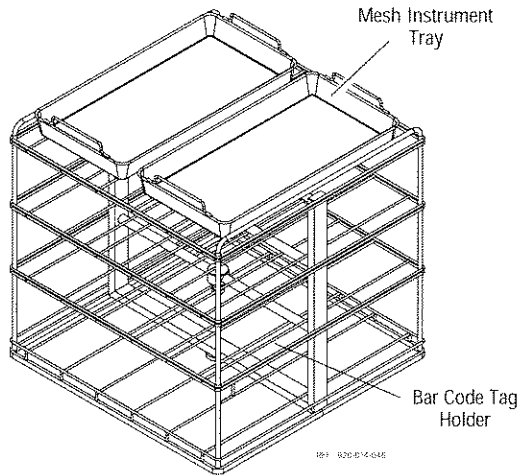

Figure 3-11. Four-Level Manifold Rack
- **Four-Level Manifold Rack** (see Figure 3-11) is designed to hold one or two Amsco Instrument Trays, or two mesh Instrument Trays, on each level.